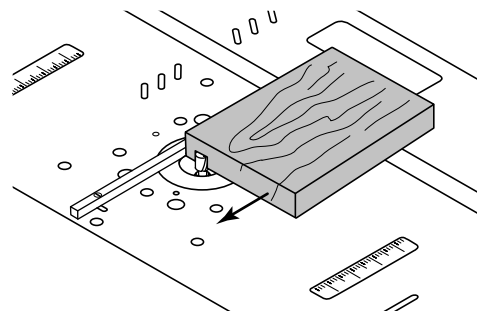

Figure 49
2. Lay a 3/4" piece of wood on the tabletop. With it snugly against the dovetail bar, run it over the bit. This makes the dado cut. See Figure 49.